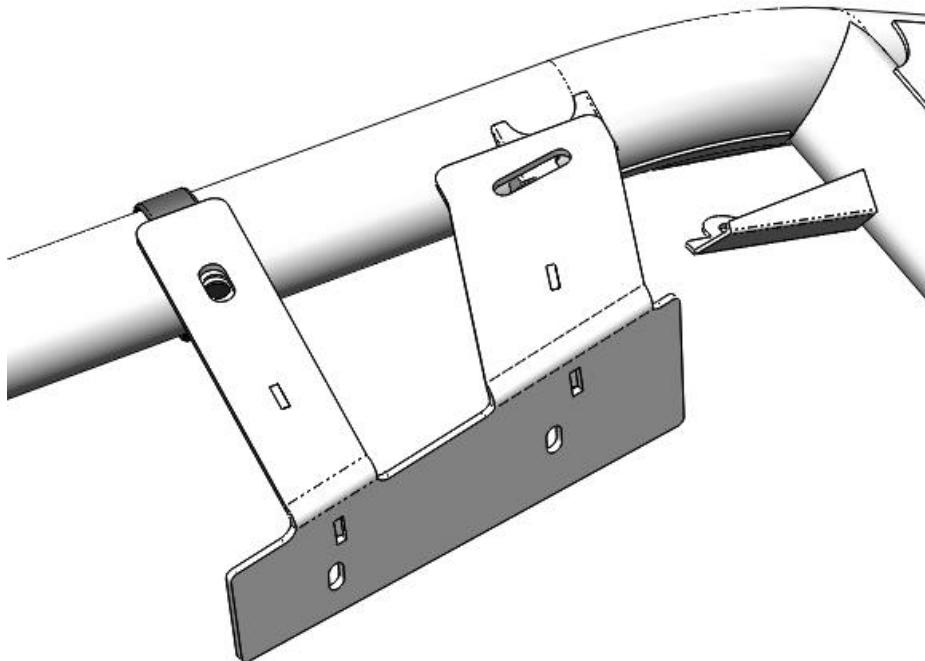

Figure 4: Mounting location of the *Audio Mini* bracket.
3. Place the driver's side bracket on top of the loop clamp and roof mounting bracket. Verify correct orientation of the mounting bracket. See Figure 4. **Note: Driver side bracket shown. (Passenger side similar)**